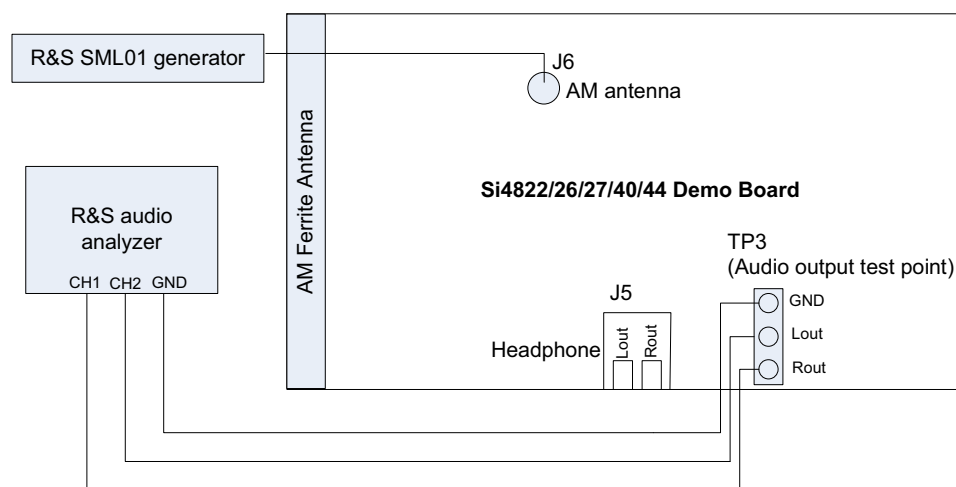
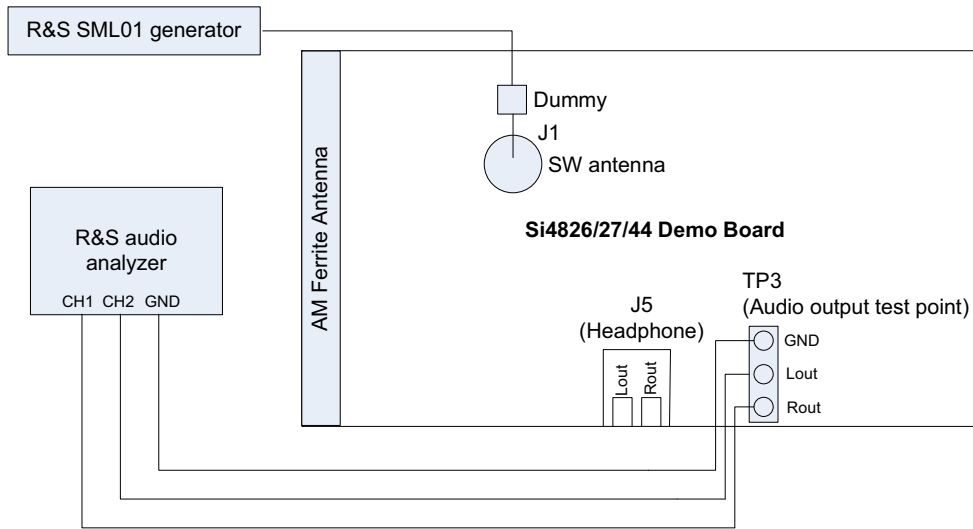

Figure 3. AM Tuner Setup with One Generator
Figure 6. SW Tuner Setup with One Generator
1. Connect test equipment as shown in Figure 3 or Figure 6.